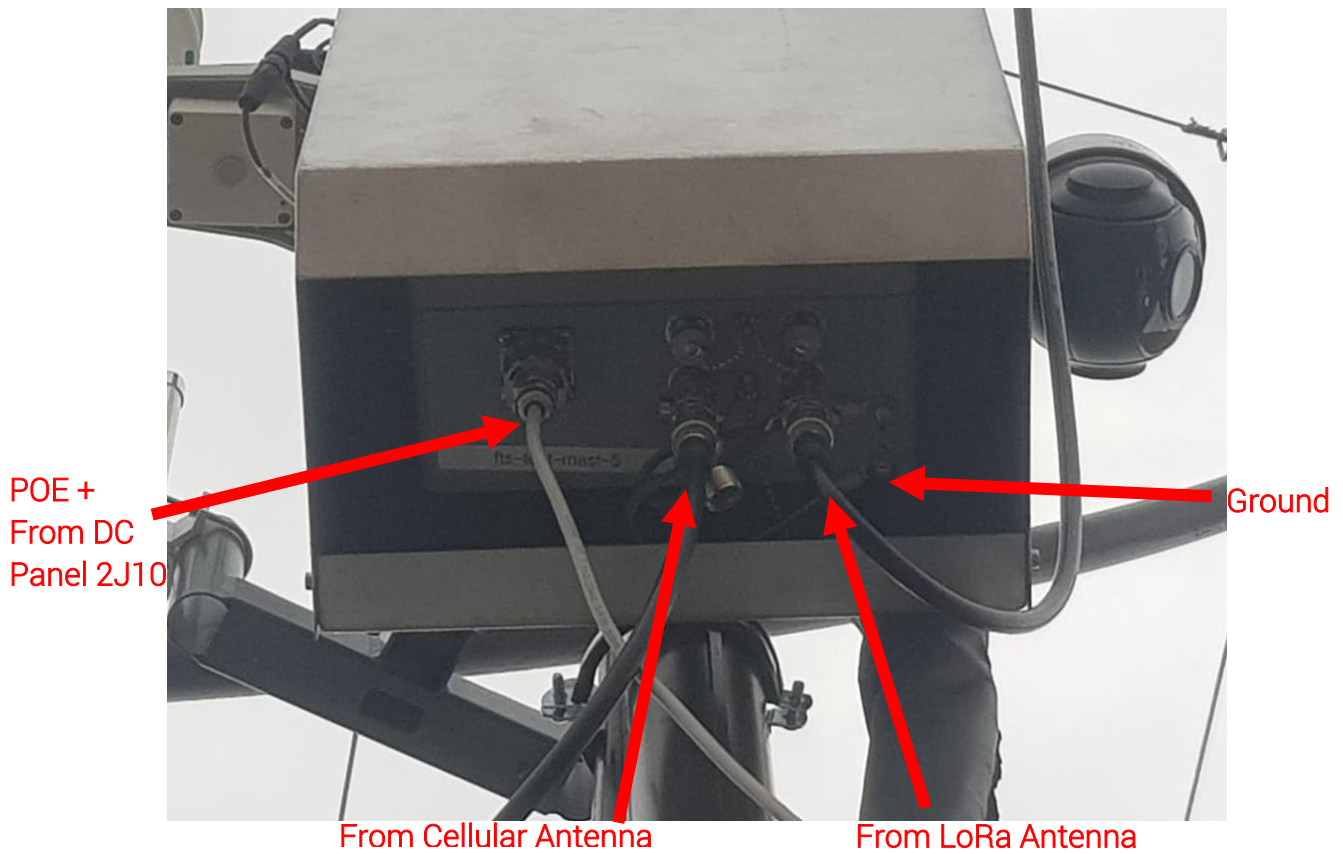
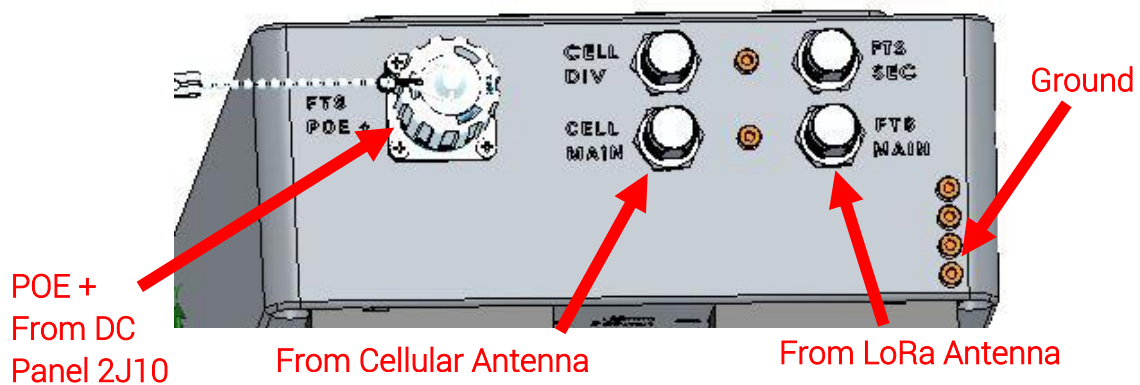

Figure 16 Cable connections in the FTS mast unit back panel
Figure 17 The FTS mast unit back panel
1. Connect the cellular antenna cable LMR400 (PN: 100266) from the cellular antenna (001238) to the "CELL MAIN" N TYPE connector (see Figure 16 and Figure 17).
2. Connect the LoRa antenna cable LMR400 (PN: 100266) from the LoRa antenna (001181) into "FTS MAIN" N TYPE connector (see Figure 16 and Figure 17).
4. Connect the CAT7 15m (E005277) from the mast panel connection (2J10) to the FTS box POE + connector (see Figure 16 and Figure 17).
6. Connect the POE+ port from the FTS unit to the DC panel external connection marked as port 2J10 using the E005277 CAT7 15m cable (see Figure 16).